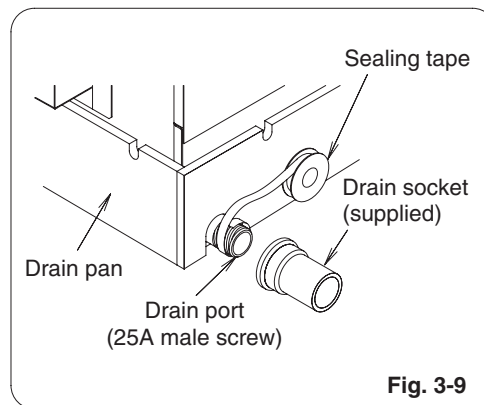

Fig. 3-9
- (2) If connecting a drain socket (supplied) to the threaded drain port, first wrap the drain port threads with sealing tape, then connect the joint. (Fig. 3-9)